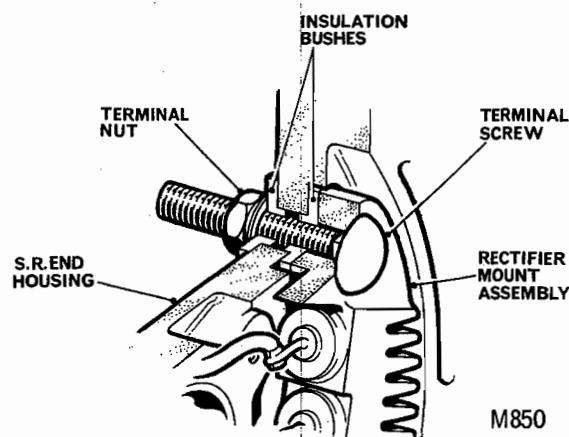

FIG. 13. SECTION THROUGH SLIP-RING END HOUSING
4. Fit new rectifier assembly, ensuring it is of the same polarity and that both the ceramic insulators and fibre washers are in their correct relative positions, Fig. 13 and 14.